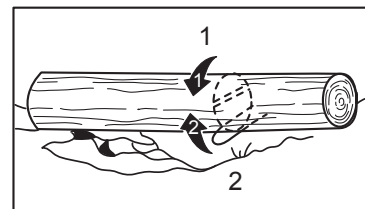

FIG. 6
3. Trunk supported on both ends: First cut from above for $\frac{1}{3}$ of the trunk and then from the bottom up until the previous cut has been reached. (Fig. 6).